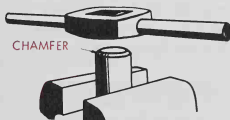

Fig. 4-90. Die will start more easily if the end is chamfered.
1. Chamfer the end of the stock, Fig. 4-90. The chamfer can be cut with a file or on a grinder.